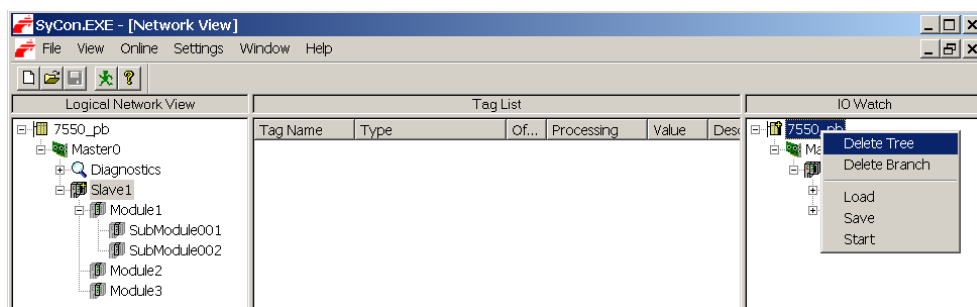

Figure 29: Clearing the tree view
- Delete the tree in the “IOWatch” window (*Figure 29*)